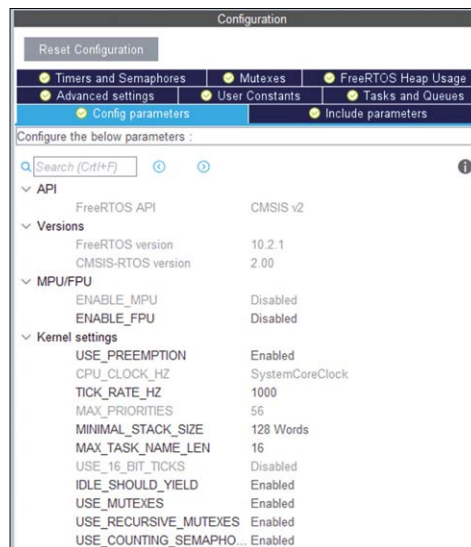

Figure A.3: Accept the default values.
- There are many parameters that can be configured under the Configuration tab. The use of these parameters requires good knowledge of the FreeRTOS. In this project we will accept all the default values (see Figure A.3).